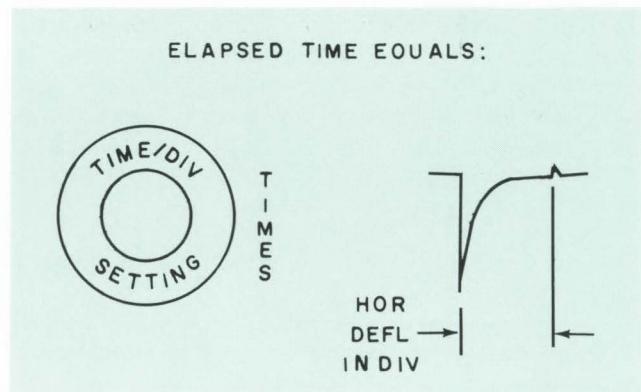

Figure 2-4. Elapsed Time Measurement
2. Multiply the horizontal dimension obtained in Step 1 by the TIME/DIV control setting to obtain the time interval. See Figure 2-4.